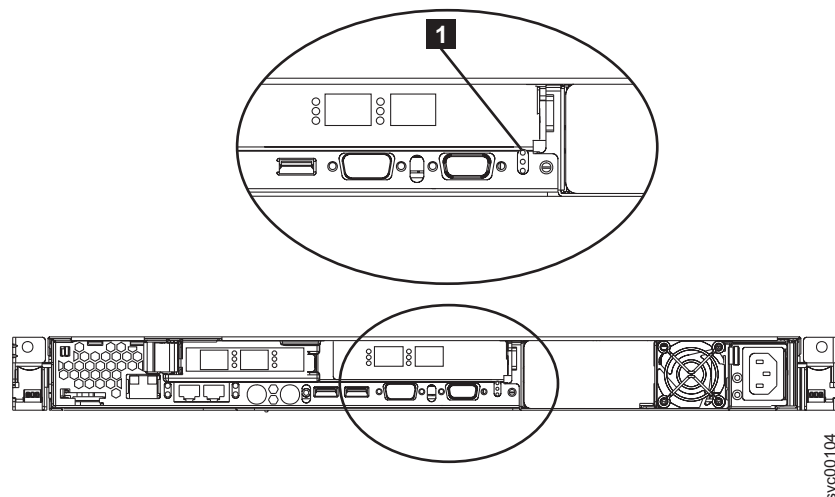

Figure 48. Power LED
**Is the rear panel power LED on or flashing?** See Figure 48.